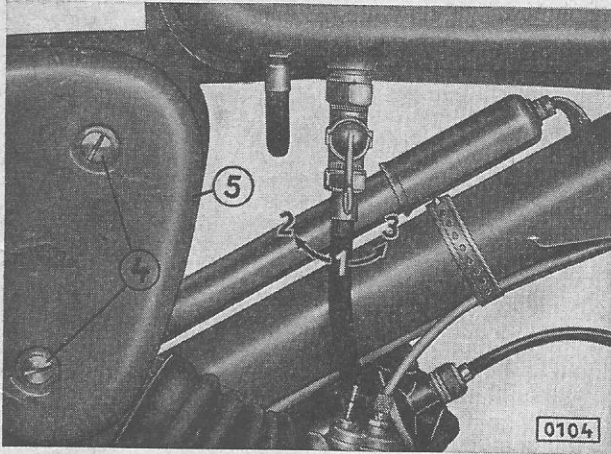

Fig. 4: Fuel feed tap:
9. Fuel feed tap (Fig. 4)
Below the fuel tank, on the r.h. side. 3 positions: "on" (Fig. 4/1), "reserve" (Fig. 4/2) and "off" (Fig. 4/3). You can go about 10 km (6 miles) on reserve fuel.
A. Open fuel feed tap (Fig. 4).